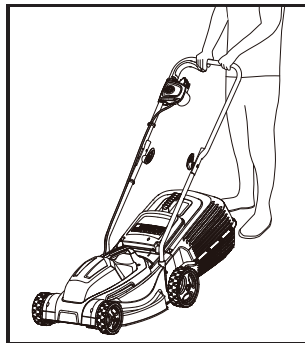

Fig. 8
2. This product is intended for private domestic use only, not for any commercial trade use. It must not be used for any purposes other than those described. Use the product in a right manner (Fig. 8).